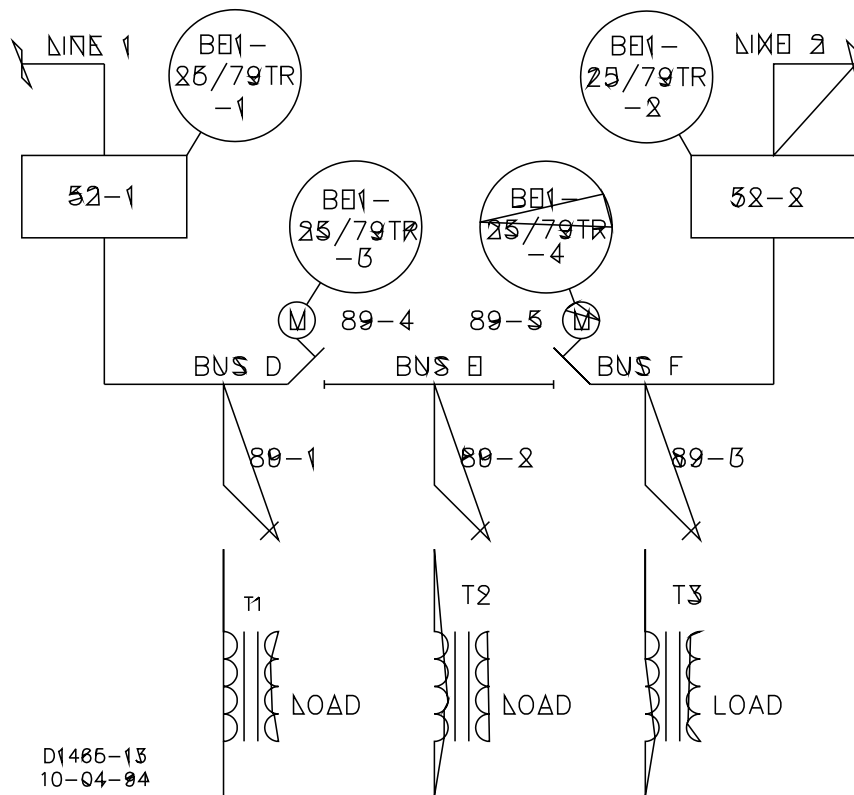

Figure 1-4. Loop Station Application Example
Our example, Figures 1-4 illustrates a typical three transformer looped station automated reclosing application. In this example, four BE1-25/79TR relays are used. BE1-25/79TR relay number 1 is connected across breaker 52-1 (Line 1 potential transformer (PT) feeds the relay line input and bus D PT feeds the relay bus input). BE1-25/79TR relay number 2 is connected in a similar manner for breaker 52-2. BE1-25/79TR relay number 3 is connected to motor operated switch 89-4 with bus D PT feeding the line input and bus E PT feeding the bus input. BE1-25/79TR relay number 4 is connected in a similar manner for motor operated switch 89-5, Bus F, and Bus E. When reclosing 89-4 and 89-5, 89-4 is set to close first. Figures 1-5 through 1-8 illustrate connections for the four BE1-25/79TR relays in our example application.